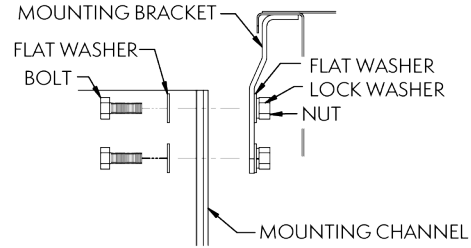

Figure 19 - Attaching Mounting Channel to Mounting Bracket
2. At each hole, attach the mounting channel to the bracket using 3/8" (10mm) hardware as shown in **Figure 19**.